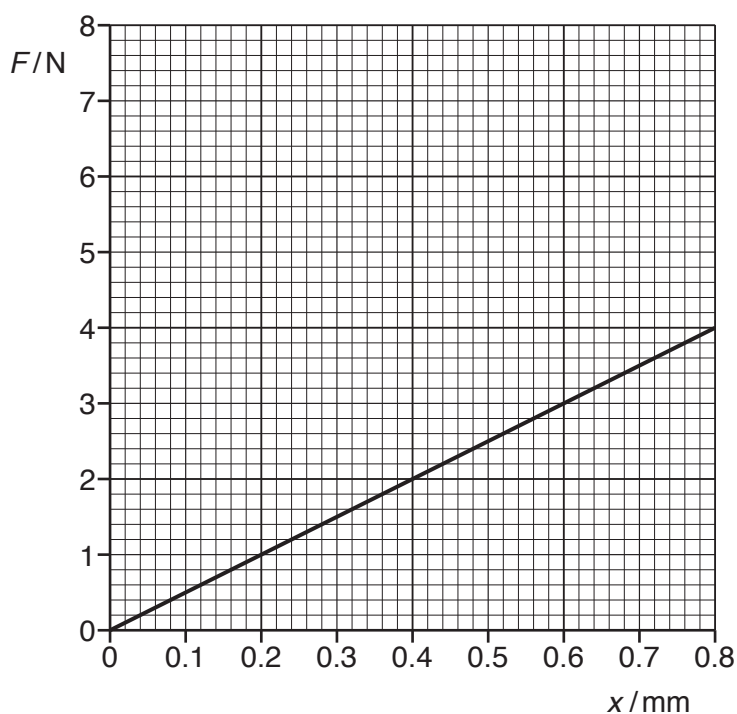

Fig. 3.1
(b) A wire is fixed at one end so that it hangs vertically. The wire is given an extension  $x$  by suspending a load  $F$  from its free end. The variation of  $F$  with  $x$  is shown in Fig. 3.1.
- (iii) **Fig. 3.1** to calculate the increase in the energy stored in the wire when the load is increased from 2.0 N to 4.0 N.
**On Fig. 3.1**, sketch the variation with extension  $x$  of the load  $F$  for the new wire from  $x = 0$  to  $x = 0.80 \text{ mm}$ . [2]